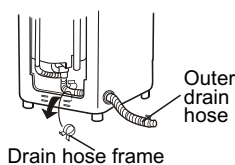
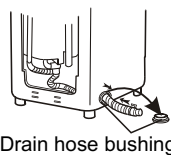

Figure 1
Figure 2
2. Put down the drain hose. Take off the drain hose frame. As indicated in Figure 1, put the drain hose into the cabinet. Then stretch one hand into the cabinet to nip the claw of the drain hose bushing to remove the claw from original position. Take off the drain hose bushing with the other hand. (As indicated in Figure 2 and 3).